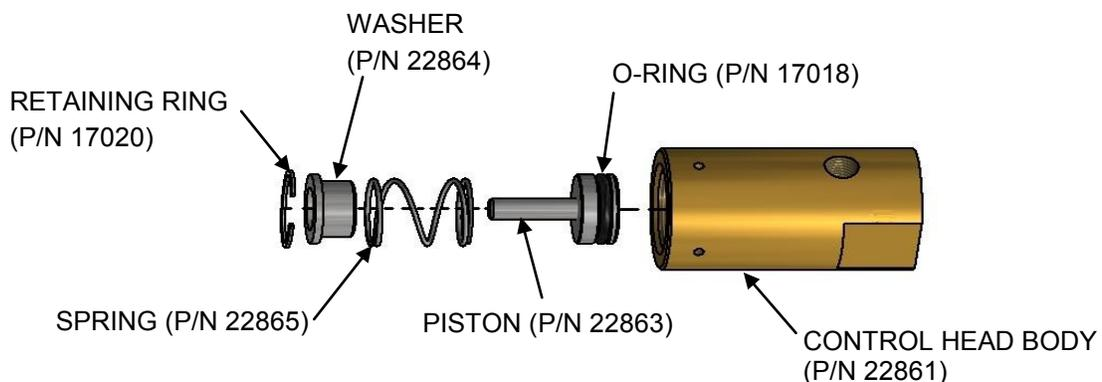

Figure 6.2.1.5
12. Insert Washer (P/N 22864) in the direction as shown on Figure 6.2.1.5.
#### Control Head Disassembly (See Figure 6.2.1.6):
#### Control Head Cleaning (See Figure 6.2.1.6):